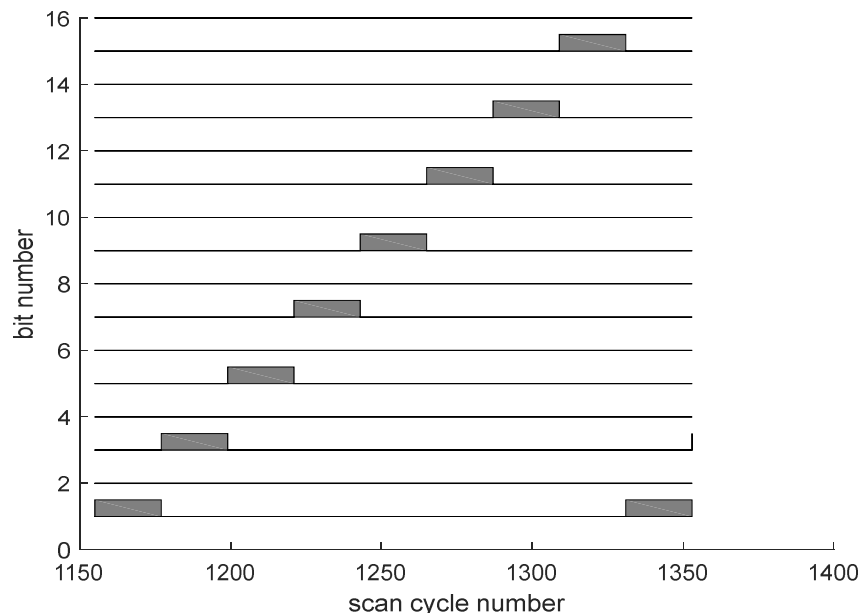

Fig.3: A sequence of digital signals saved in the file `data_log3_tmp.DTX`.
**B1.** Download the file `data_log_up13.zip` from the referred webpage, uncompress the zip file to a folder and verify that `mem_dump_load_tst.m` plots a saved sequence of digital signals. The plot should be similar to the one in Fig.3.